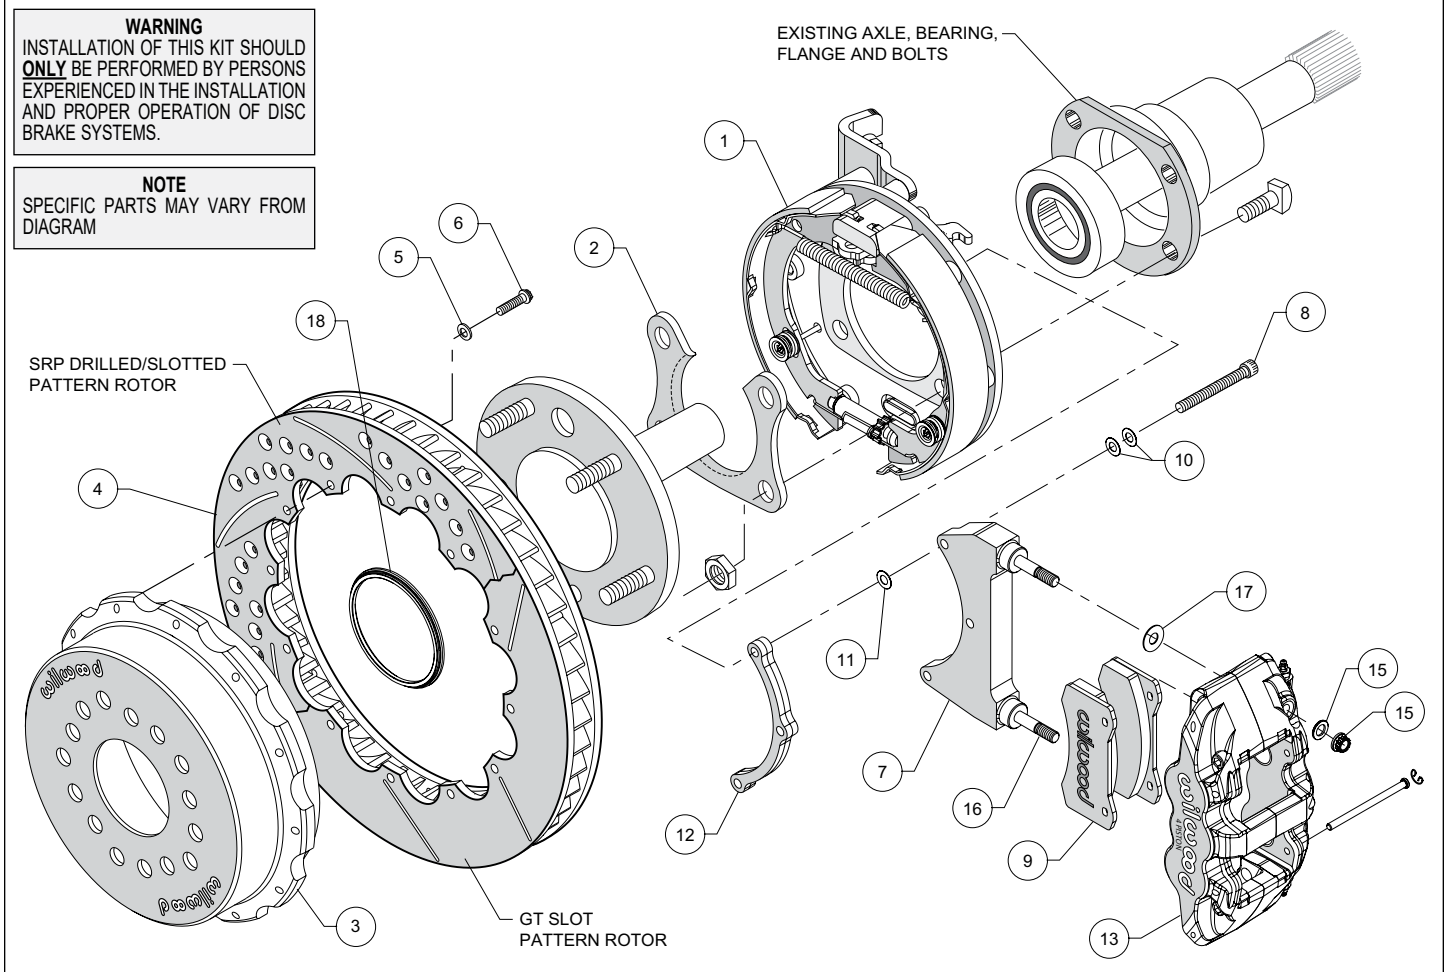

Figure 1. Typical Installation Configuration
- Orient the bracket assembly (1) as shown in Figure 1 and slide it onto the axle. Insert the axle and bracket into the axle housing. Ensure that the bracket assembly backing plate fits flush against the axle housing flange.
- Install the bearing retainer (2) with the opening pointing upward and the lip facing inward (toward the bearing), as shown in Figures 1 and 4. Secure retainer and bracket assembly to the
axle housing flange using the Original Equipment Manufacturer (OEM) bolts and nuts, Figure 1. Apply red *Loctite*® 271 to the OEM bolt threads and torque to OEM specifications.
•**NOTE:** Please reference the caution statement at the beginning of the assembly instructions. The caliper mounting bracket assembly (7) should be installed first with clean, dry threads on the mounting bolts (8). Install the bracket from the rear side of the bracket kit assembly (1) by sliding bolt (8) through two flat washers (10), bracket (7), shim washer (11) and finally through the spacer (12), see Figure 1. **NOTE:** End of bolt should not exceed inside face of insert. The bracket must tighten squarely against the back side of the bracket kit assembly (1). Inspect for interference from casting irregularities, machining ridges, burrs, etc. Use one thin shim (11) between the bracket (7) and spacer (12) during initial trial fitting.
•Lubricate caliper mounting studs and nuts with lightweight oil. Install one washer (17) over each pre-installed stud (16) on the radial mount bracket (7). Slide the caliper (13) in place over the studs and rotor, then install the washer (15) and lock nut (14) to hold the caliper in place. The caliper bleed screws should be pointing up. Snug the lock nuts (14) and check that the rotor (4) is centered in the caliper (13). Add or subtract .015" shims (11) as necessary between the caliper mounting bracket (7) and the spacer (12) to center the caliper (13).
•Remove the two pad retaining pins from the caliper (13) by carefully popping out the pin retaining clips and sliding out the pins. Insert the brake pads (9) into the caliper from the bottom, Figure 1. With the friction material facing the rotor, secure the brake pads in place with the pad retaining pins and clips. Reinstall the caliper onto the caliper mounting bracket and temporarily tighten the lock nuts. Check that the top of the brake pad is flush with the outside diameter of the rotor. If not, adjust by adding or subtracting shims (17) between the caliper and the bracket.
•Adjust the parking brake shoes outward (using a drum shoe adjustment tool available at your local auto parts store) while spinning the hat (3) until a slight drag is felt against the hat/drum. Remove the lug nuts that were holding the hat/rotor in place. Install the wheel and lug nuts. Check to see that the wheel rotates freely without interference.
•Once all clearances have been checked, remove the wheel, caliper, hat/rotor from the bracket kit assembly (1). Secure the